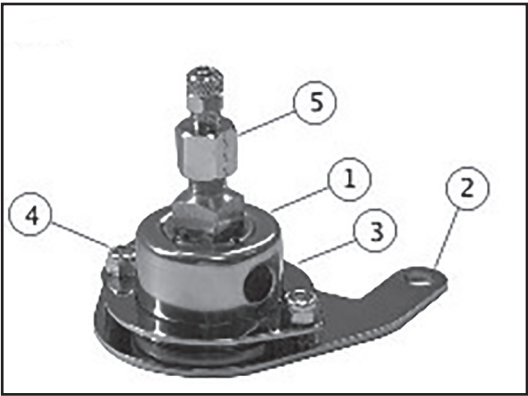

Figure 1. Oil Gauge and Bracket Assembly
1. See Figure 1. Assemble oil pressure gauge to mounting bracket using locknuts and retention plate as shown. Tighten locknuts just until bracket studs are flush with nylon inserts in locknuts. Thread female pipe fitting onto end of gauge. Hold square stem of gauge with wrench when tightening female fitting.